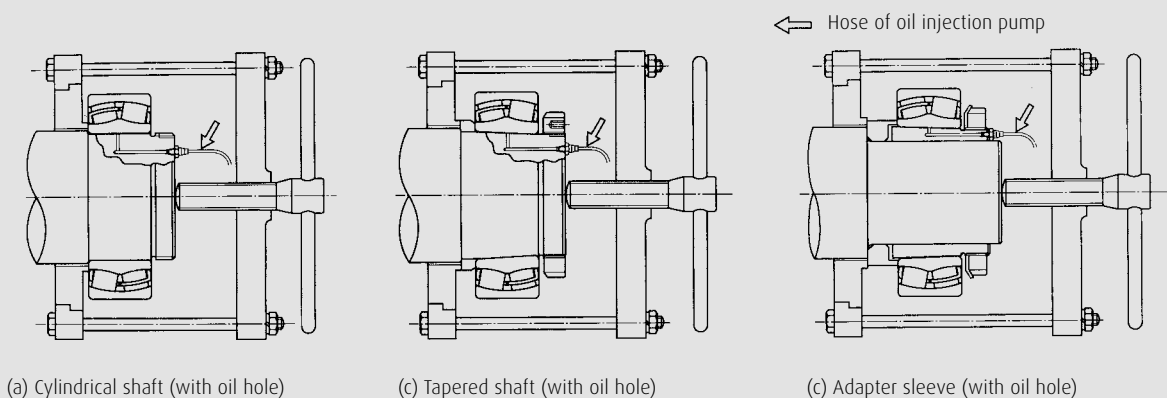

Fig. 7.8 Oil injection method
7.2.6 Oil Injection Method (Fig. 7.8)
1. Remove the turning stopper from the lock nut and remove the lock nut in case of the cylindrical shaft. (**Fig. 7.8 (a)**) In case of the tapered shaft (**Fig. 7.8 (b)**), return the nut until about 1/2 of thread length of lock nut mounting thread.
In the case of an adapter sleeve (**Fig. 7.8 (c)**), a special puller can be used jointly. Basically, perform the procedure of Section 7.2.1. "Special puller method" but with the only differences being the connection and action of the oil injection pump. The operation shall be performed by turning the push-in bolt of the special puller while letting the pump run.